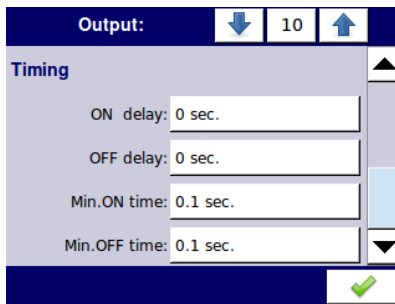

Fig. 7.92. Timing settings for different modes
**Timing** parameter block (see Fig. 7.92)